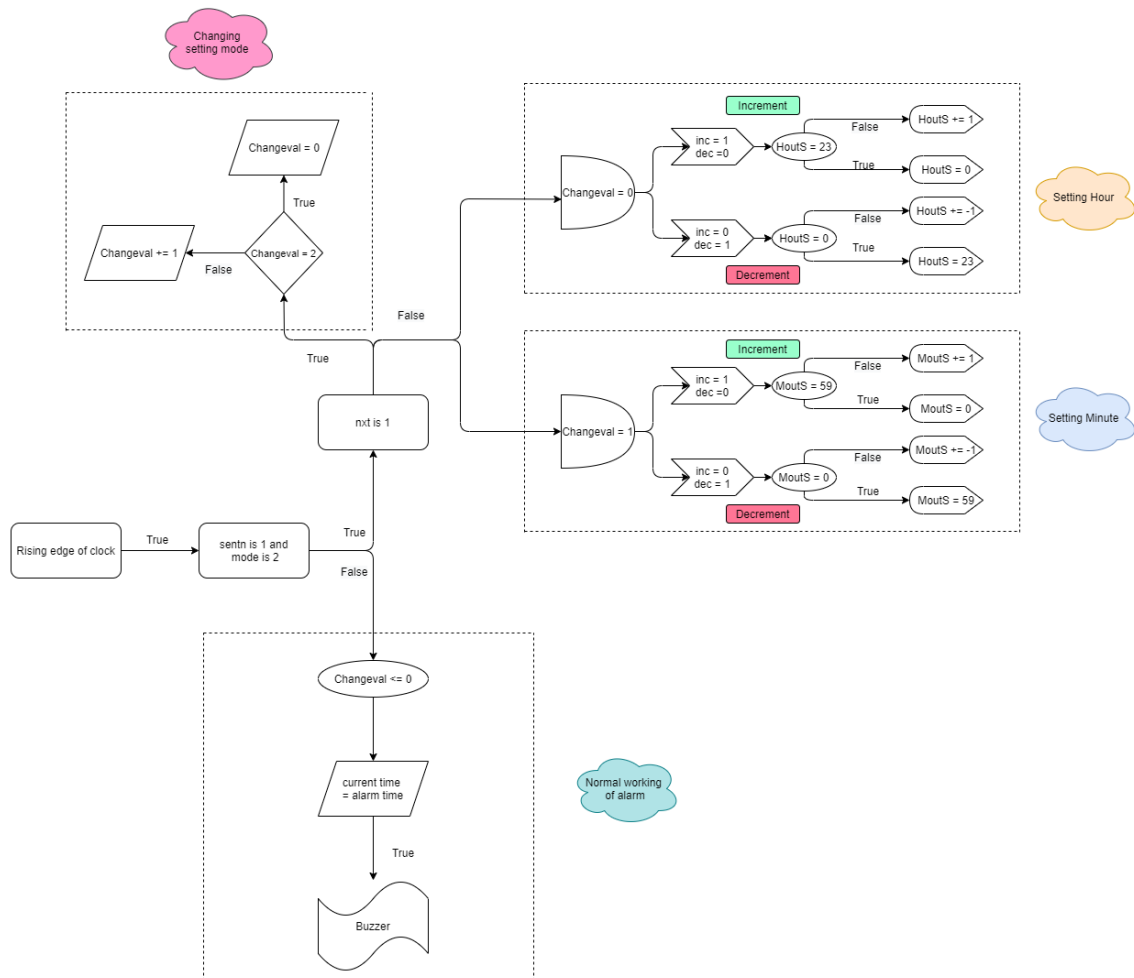

Figure 4: Flow Chart of Alarm
- The normal working of the alarm is shown in the Fig 4.